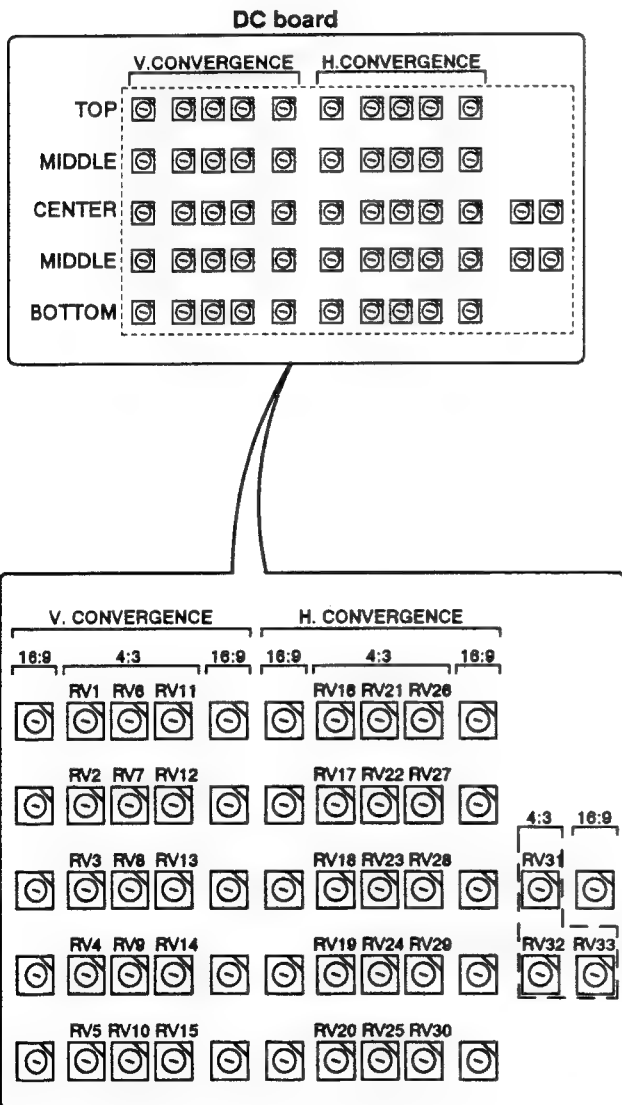

Fig. 1-10.
2. Adjust CONVERGENCE controls (RV1 ~ RV30) on the DC board as shown in Fig. 1-10.